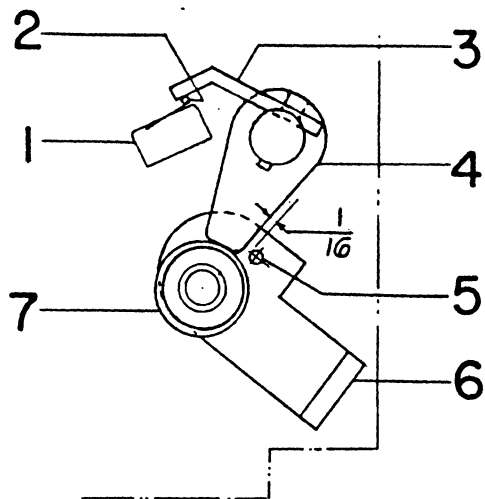

Figure 11. (0137A6038) Latch Checking Switch Adjustment
Referring to Figure 11, rotate the trip latch (4) clockwise by pressing the manual trip button to open the latch checking switch contacts and to release the latch checking switch operating arm (3). Allow the trip latch to reset slowly and determine the point at which the contacts make by using a circuit continuity tester, such as a light indicator or bell set. The contacts of the latch checking switch should just make when the gap between the trip latch (4) and the stop pin (5) located on the crank (6) is $1/16$ ". The roller (2) on the latch checking switch should have a minimum of $1/32$ " overtravel after final adjustment.